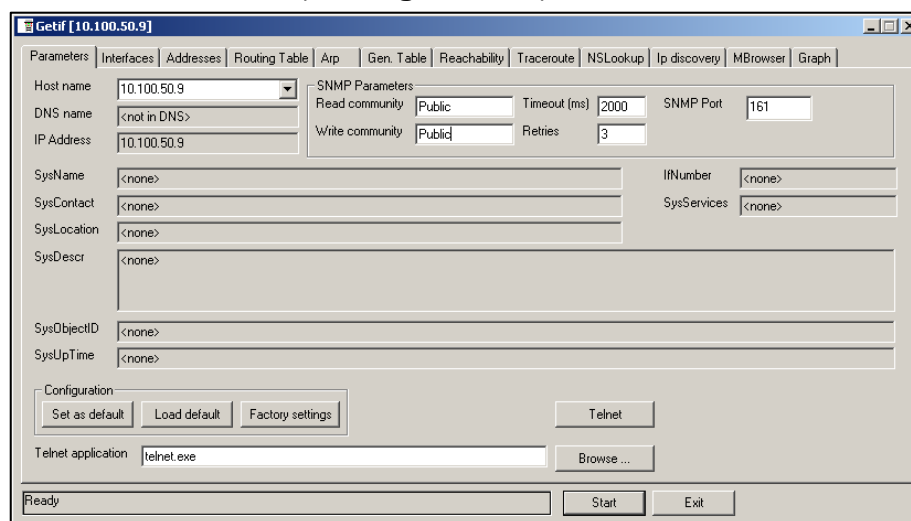

Figure 7-12: GetIF Application Parameters Tab
3. Select the unit IP address and community strings in the relevant text boxes on the Parameters tab (see **Figure 7-12**) and then click the Start button.